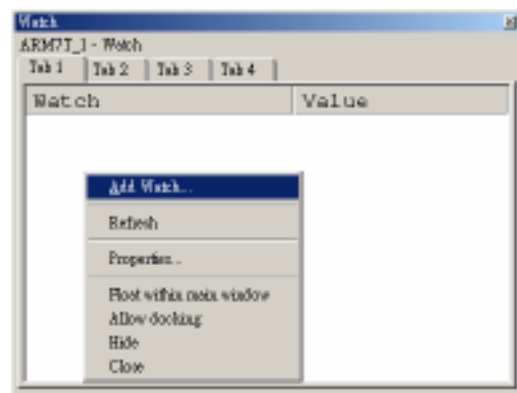

Figure 13. Add Watch to Processor Watch window.
6. Right-click in the window, and select **Add Watch** from the pop-up menu (Figure 13). A **Watch dialog** appears, prompting you to enter an